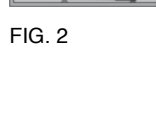
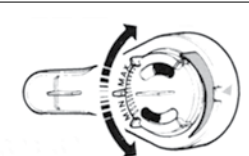

FIG. 3
FIG. 4
**FLOW:** Flow can be adjusted from minimum to maximum (see technical data). To adjust it, separate the motor body from the container (fig. 3) and rotate the valve (fig. 4).